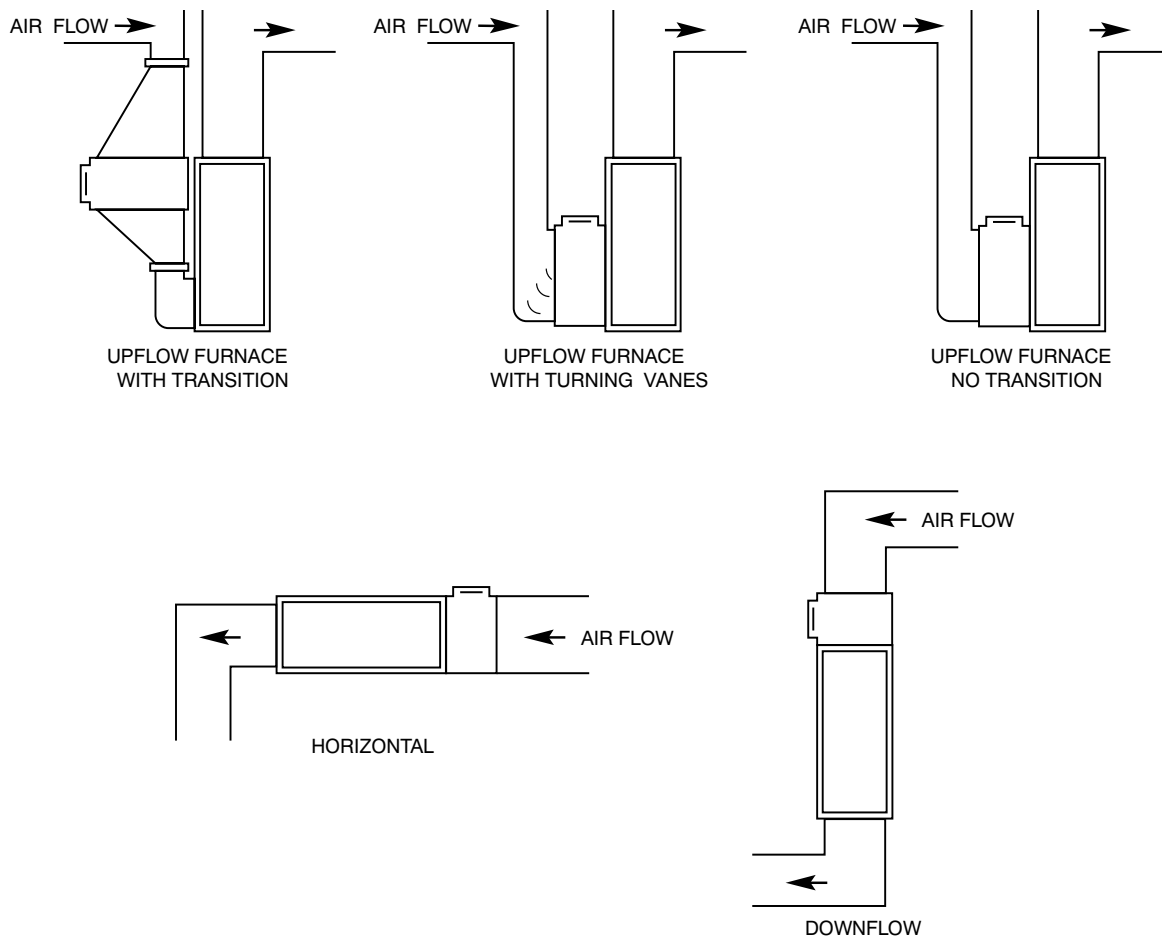
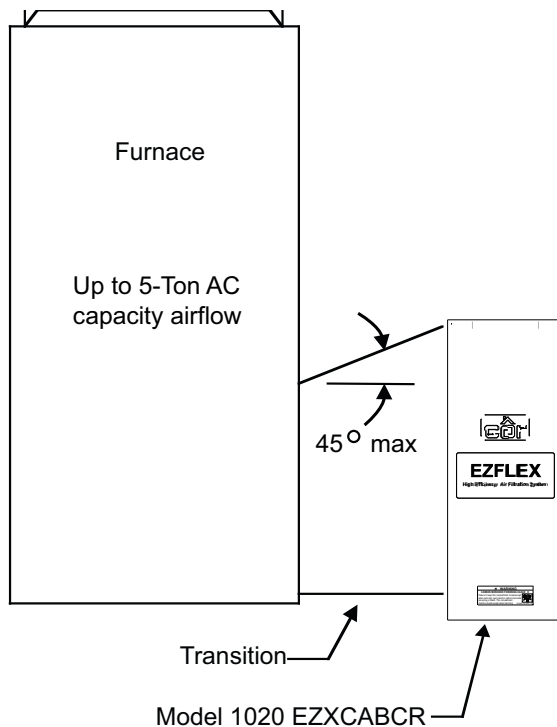

Fig. 3 – Typical Mounting Positions
Fig. 4 – Furnace
The best location for the High Efficiency Air Filtration System cleaner is in the return air duct next to the blower compartment. In this location, the blower motor and cooling coils will be kept clean. Do not install the air cleaner in the discharge (supply) air duct. Before installing this High Efficiency Air Filtration System cleaner, consider the application. If a transition is required, refer to Fig. 3 or Fig. 4. The unit must be readily accessible for periodic inspection and replacement of EZ-Flex™ filter to maintain maximum efficiency and trouble-free operation.
4. Locate the cabinet in the cold air return duct so that all of the return air flows through the unit. If the furnace and air cleaner openings are different, use a transition. See Fig. 3.